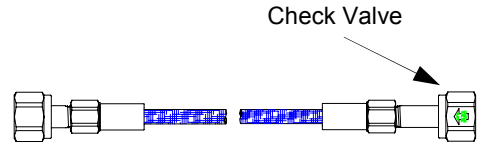

Figure 12
1. Establish the inlet and outlet ends of the pigtails. The flow direction stamped on the CGA nut will provide the flow direction. (Figure 12)